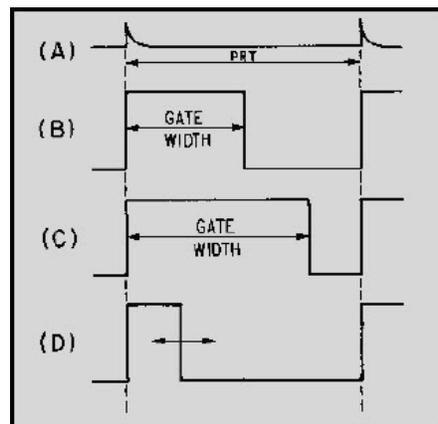

Figure 3-16 Monostable multivibrator waveforms with a variable gate
Note that R_3 is variable to allow adjustment of the gate width. Increasing R_3 increases the discharge time for C_1 which increases the cutoff time for Q_2 . Increasing the value of R_3 widens the gate. To decrease the gate width, decrease the value of R_3 . Figure 3-16 shows the relationships between the trigger and the output signal. View (A) of the figure shows the input trigger; views (B) and (C) show the different gate widths made available by R_3 . Although the durations of the gates are different, the duration of the complete cycle remains the same as the pulse repetition time of the triggers. View (D) of the figure illustrates that the trailing edge of the positive alternation is variable.